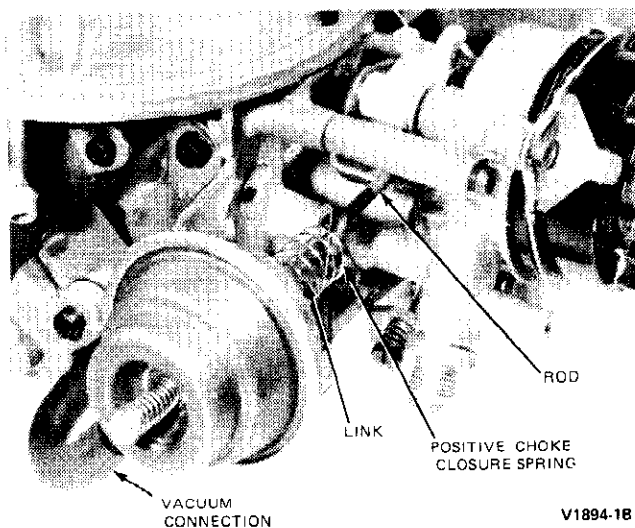

FIG. 21 Choke Pulldown Diaphragm Assembly
2. Remove the two (2) attaching screws from the bracket, disconnect the vacuum supply tube and remove the pulldown diaphragm.
3. Remove the attaching screws holding the diaphragm assembly on the main body. Rotate the diaphragm assembly to disengage the rod (Fig. 21).